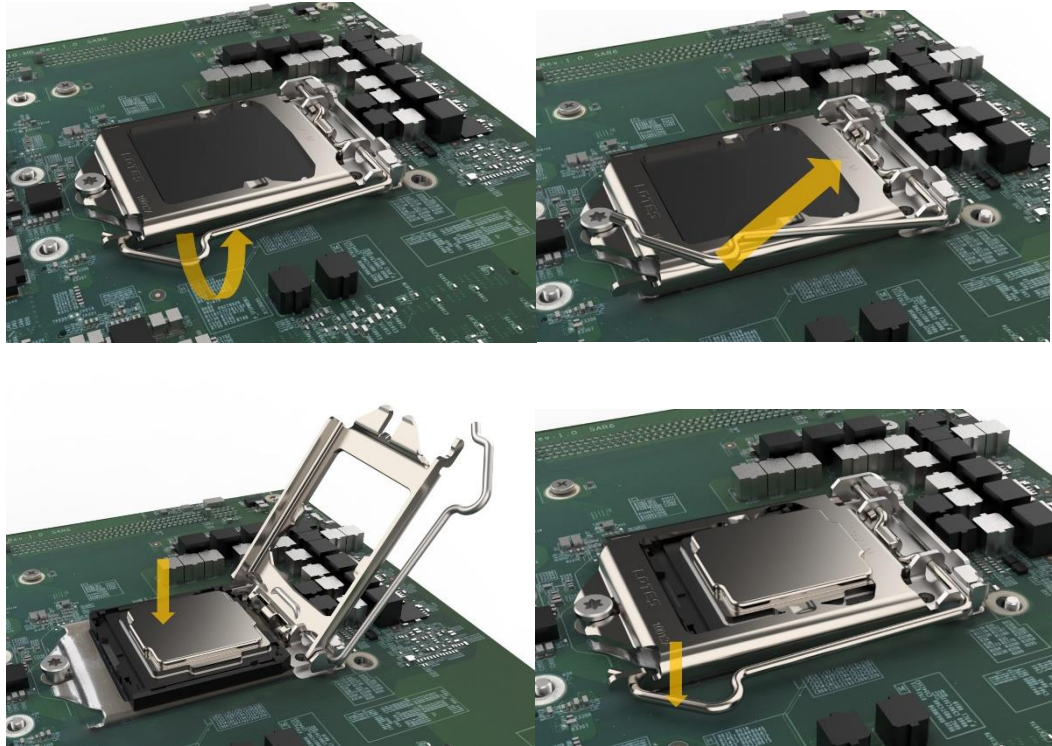

Figure 3-3: CPU Installation
Step 2: Pull the lever of the CPU buckle, remove the CPU protection cover, install the CPU at the notch, and fasten the lever down in the buckle (See Figure 3-3).